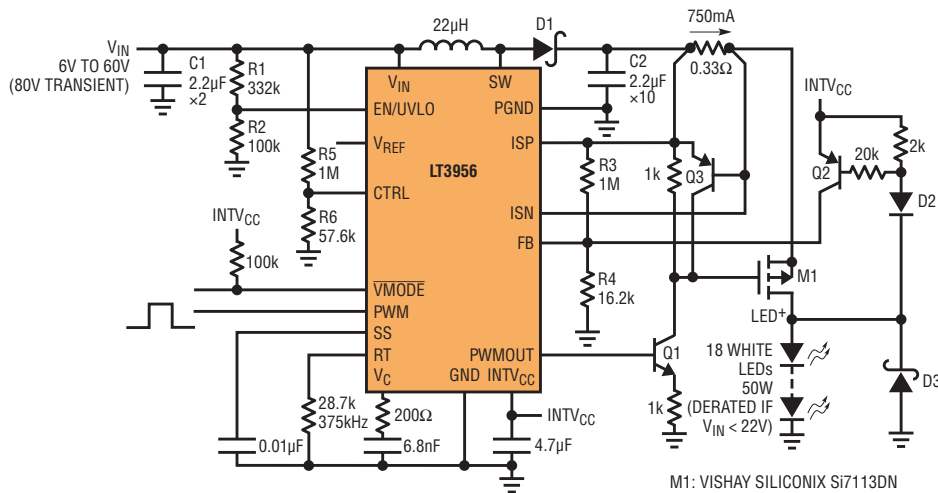
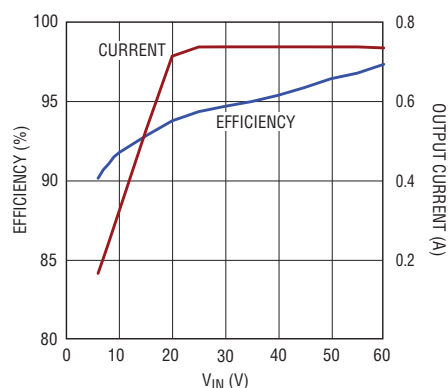

Figure 2. This 50W boost LED driver provides wide input range, PWM dimming and LED fault protection and reporting.
Figure 3. High 94% efficiency means less than 3W dissipation in the converter shown in Figure 2.
Figure 2 shows a 50W boost LED driver that operates from a 24V input, showing off some of the unique capabilities of this product when applied as an LED driver. This boost circuit tolerates a wide input range—from 6V to 60V. At the low end of this V_{IN} range, the circuit is prevented from operating too close to switch current limit by scaling back the programmed LED current as V_{IN} declines—set by the resistor divider (R_5 and R_6) on the CTRL pin. Figure 3 shows efficiency and LED current versus V_{IN} . The high efficiency (94%) means passive cooling of the regulator is adequate for all but the most extreme environmental conditions.
Pulse width modulation (PWM) of LED current is the preferred technique to achieve wide range dimming of the light output. Figure 2 shows a level shift transistor Q1 driving a high side disconnect P-MOSFET M1. This configuration allows PWM dimming with a single wire
The boost circuit in Figure 2 uses the voltage feedback (FB) input in a unique fashion—protecting the LED⁺ node from a fault to GND while preserving all the other desirable attributes of the LED driver. A standard boost circuit has a direct path from the supply to the output, and therefore cannot survive a GND fault on its output when the supply current is not limited. There are a number of situations where one might desire to protect the switching regulator from a short to GND of the LED anode—perhaps the luminary is separated from the driver circuit by a connector or by a long wire, and the input supply is a high capacity battery.